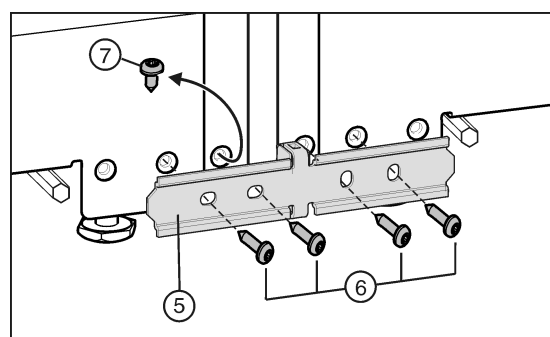

Fig. 23
- If your appliance has been fitted with the pre-fitted screw Fig. 23 (7): Undo the screw.
- ▶ Fix the connecting sheet *Fig. 23 (5)* loosely to one appliance with two screws *Fig. 23 (6)*.